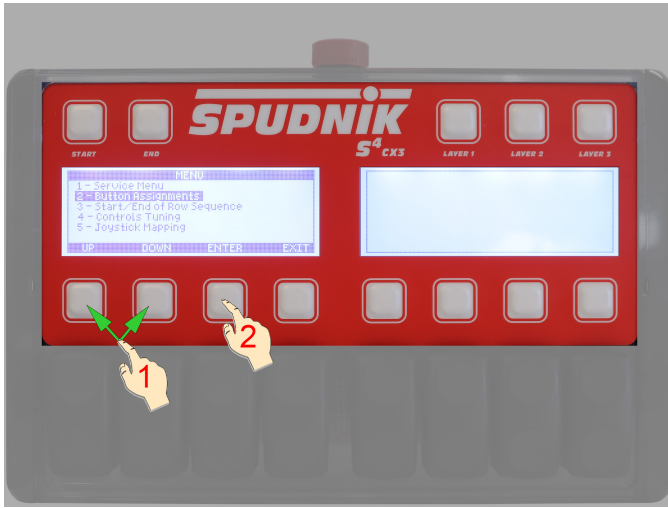

Figure 14
Upon completion of programming, press soft key 4 (*EXIT*) to exit the *MENU* screen and return to the Home screen. (See Figure 14)
1. On the *MENU* screen, use soft key 1 (*UP*) and/or soft key 2 (*DOWN*) to move the cursor to highlight *2-Button Assignments*. Press soft key 3 (*ENTER*) to access the *FUNCTION POSITIONING* screen. (See Figure 14)
1. On the *MENU* screen, use soft keys 1 (*UP*) and/or 2 (*DOWN*) to move the cursor to highlight *5-Joystick Mapping*. Press soft key 3 (*ENTER*) to access the *Joystick Control* screen. (See Figure 14)
1. On the *MENU* screen, use soft keys 1 (*UP*) and/or 2 (*DOWN*) to move the cursor to highlight *3-Start/End of Row Sequence*. Press soft key 3 (*ENTER*) to access the *ROW SEQUENCE MENU* screen. (See Figure 14)